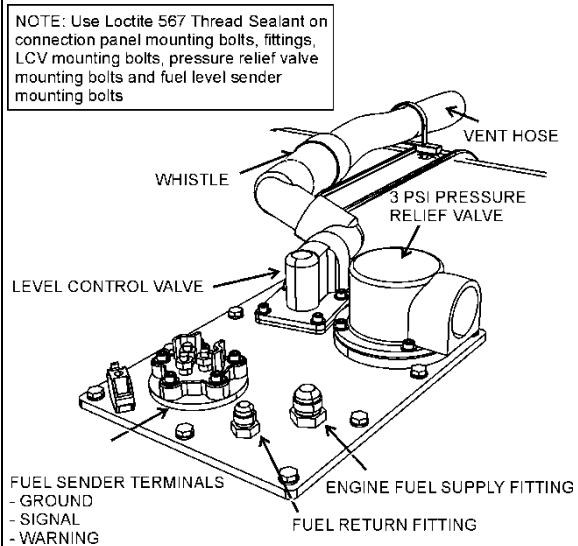

FIGURE 17: FUEL TANK CONNECTION PANEL
4. Disconnect the fuel level sender electrical wires (3wires). Prior disconnecting, identify the wires and proper terminal on the fuel level sender as reference for reinstallation (Figure 17).